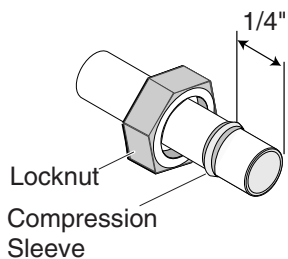

Figure 3
- Place the lock nuts on the pipe, small end first. Follow the lock nuts with the brass compression sleeves (one for each cut pipe end). Slide each brass compression sleeve up 1/4" from the cut end of the pipe (see Figure 3).